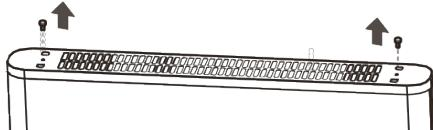

Figure 1
1. Refer to fig.1. Position the heater with the bottom facing up, and unscrew the onboard screws